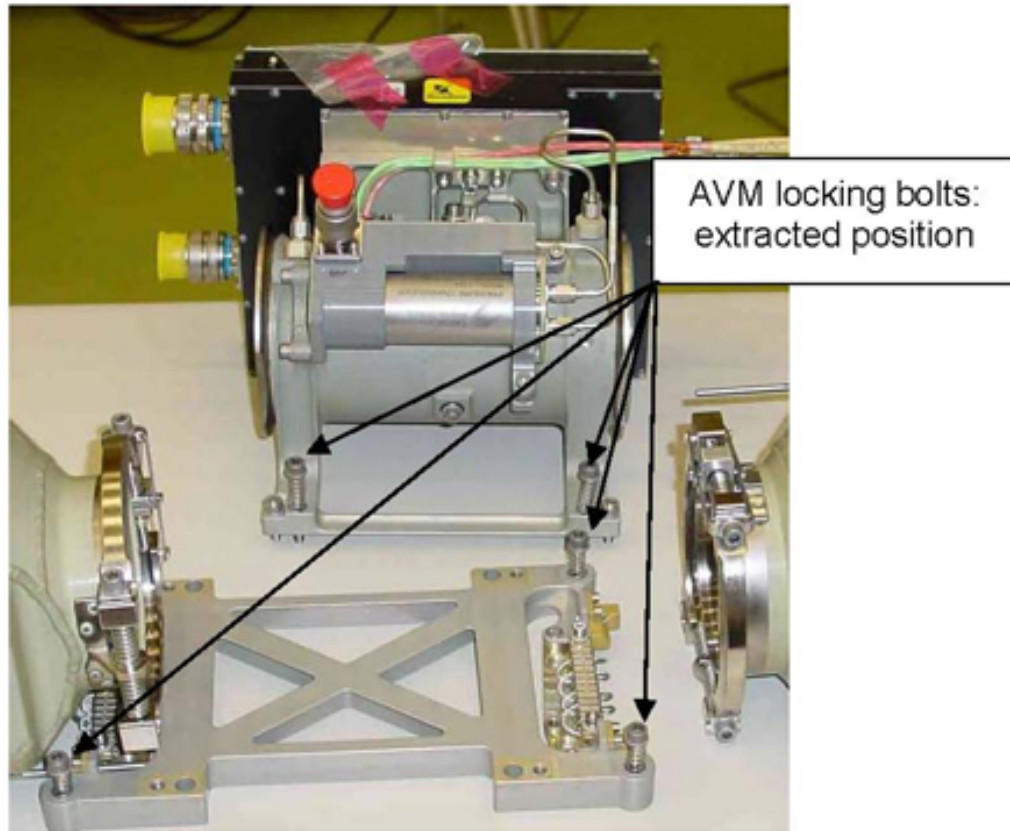

Figure 5. IRFA spring loaded locking bolts before installation
3. The 8 AVM launch locking bolts are spring loaded. When completely loosened, the bolts are pushed up by the spring. Refer to Figure 5.